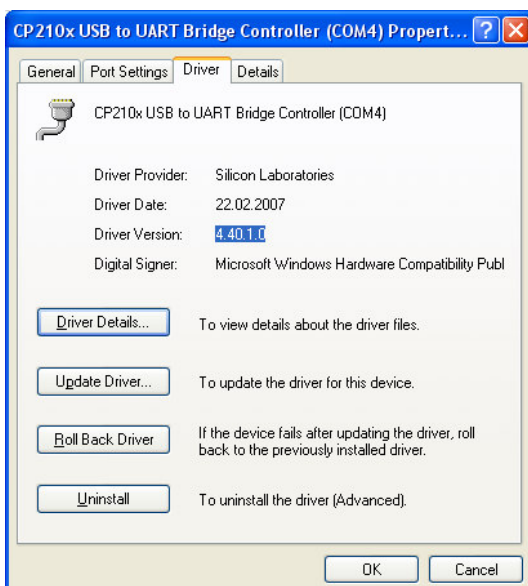

Figure 17 – Current driver version
- 4) Find the driver version which is located under the Driver(Figure 17). If the driver version is not 4.40.1.0 this might be the reason for your observation. In such a case you should disconnect the HW and uninstall the driver using the add or remove programs from the Control panel. Refer to chapter 2.2 installation of the correct driver.